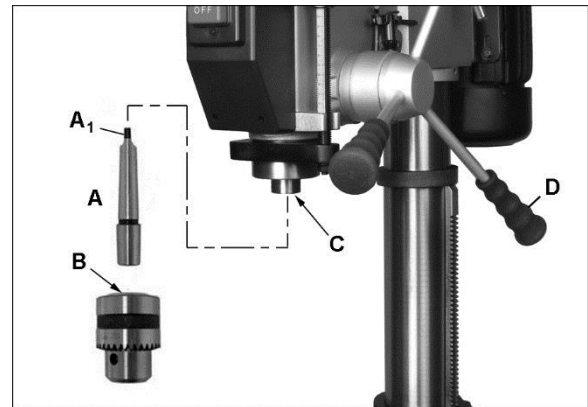

Figure 6-2: installing chuck and arbor
1. Install 3 feed handles into hub (D, Figure 6-2).
1. Thoroughly clean arbor (A, Figure 6-2), chuck (B) and spindle (C). Any grease or residue in these areas can cause the pieces to separate and create a safety hazard as well as damage to the tool.